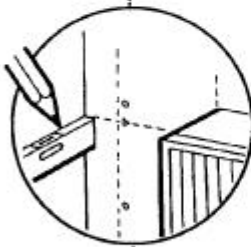

Fig. 32
7. Extend the horizontal centre line around the corner for approximately 300mm (12 in). Ensure that the line remains horizontal by checking with a spirit level (Fig. 32).